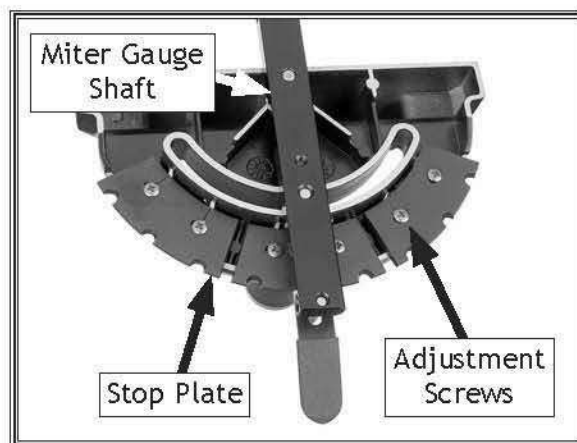

Figure 124. Checking 45° stop on miter gauge.
5. Loosen two Phillips head screws that secure 90° stop plate (see **Figure 124**).